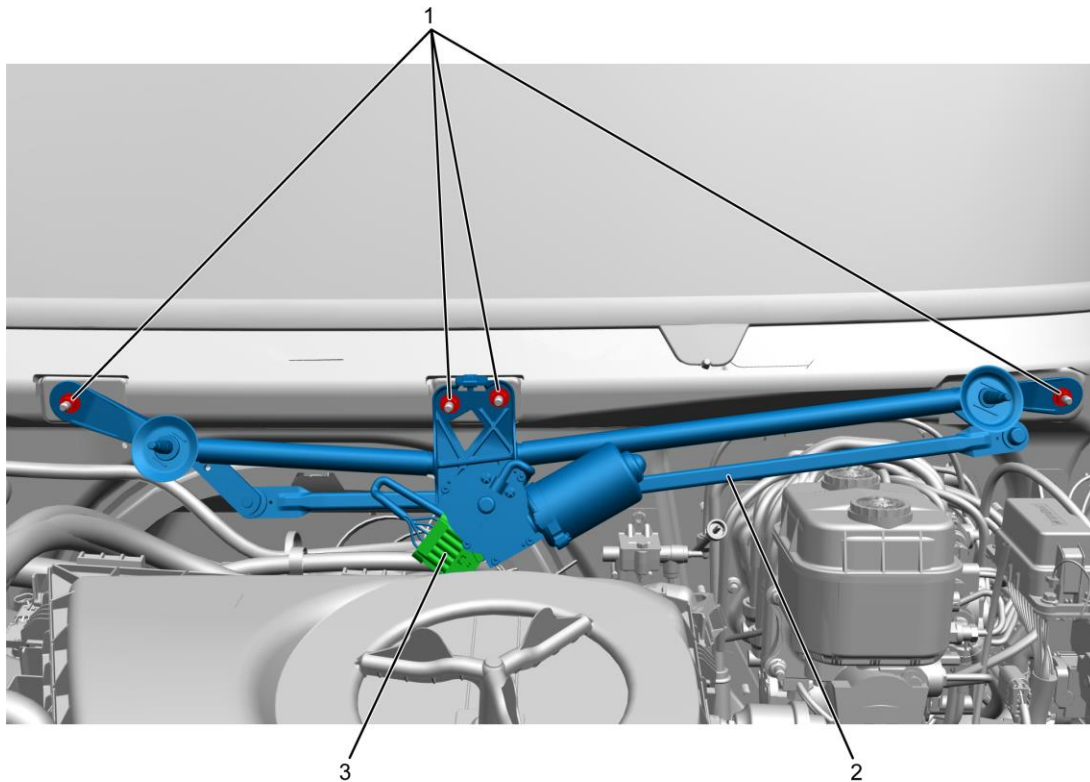

Figure 3. Linkage Assembly
1. M8 mounting nut (4)
14. Disconnect electrical connector (Figure 3, Item 3). Remove any tie straps as needed.
15. Remove four M8 mounting nuts (Figure 3, Item 1) from mounting studs and save for reuse.
16. Remove windshield wiper linkage assembly (Figure 3, Item 2) and discard.
17. Align new linkage assembly (Figure 3, Item 2) to mounting studs. Loosely install previously removed four M8 mounting nuts (Figure 3, Item 1).
19. Connect electrical connector (Figure 3, Item 3) to linkage assembly. Install tie straps as needed.